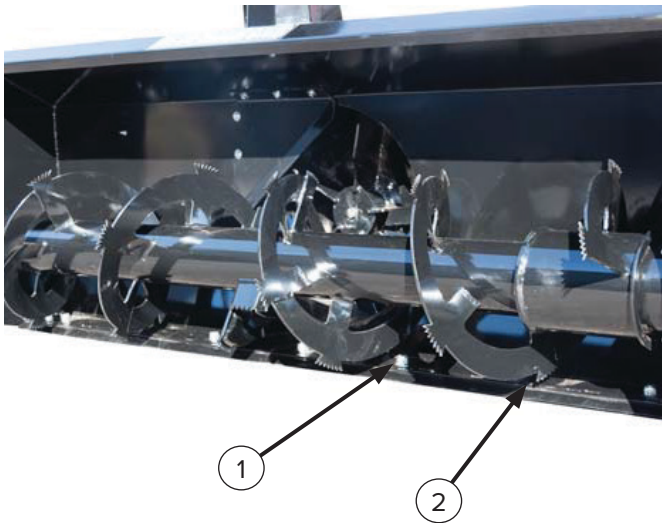

Figure 6
5. Remove all fasteners (Item 1) except the fasteners at each end of the cutting edge (Item 2) [Figure 6].